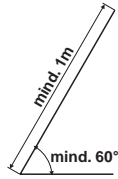

Fig. 2:
- Ensure an even distribution of the load to all four ropes and maintain an angle of at least 60° of the suspension ropes (see Fig. 2).